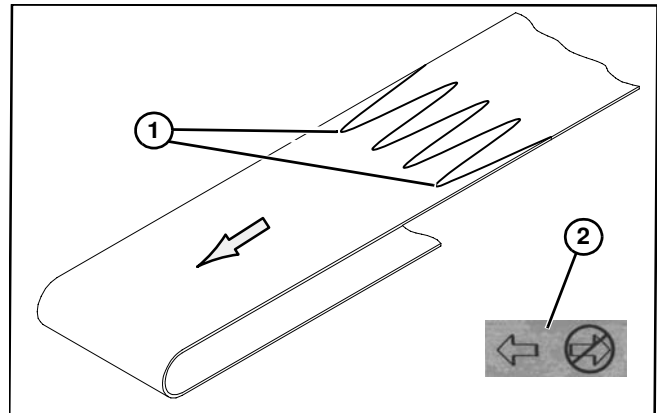

Figure 54
- Orient belt so splice outer fingers (**Figure 54, item 1**) point in the direction of belt travel as identified by the conveyor directional label (**Figure 54, item 2**).